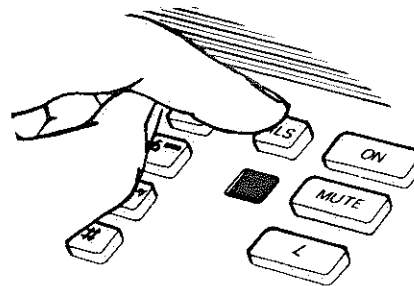

Fig. 10
6. **Release Button.** The Release button (RLS), located above the indicator light turns the handsfree unit off (Fig. 10). When operated the red indicator light goes out.